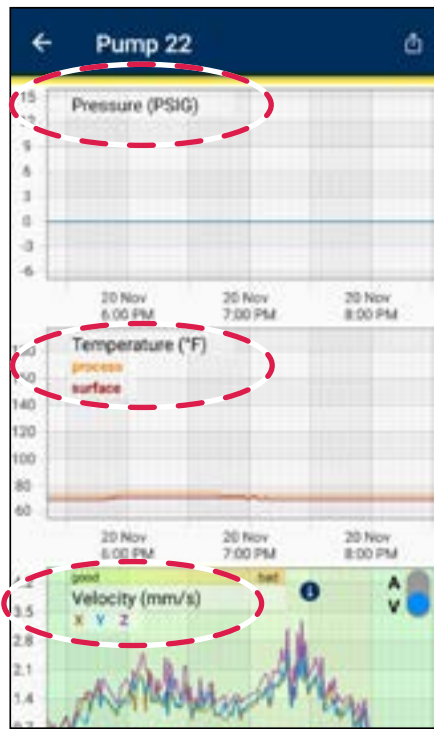

Figure 17
3. Data graph will appear on your phone (see figure 17).
User Controls for the Data Graph (see figure 17):